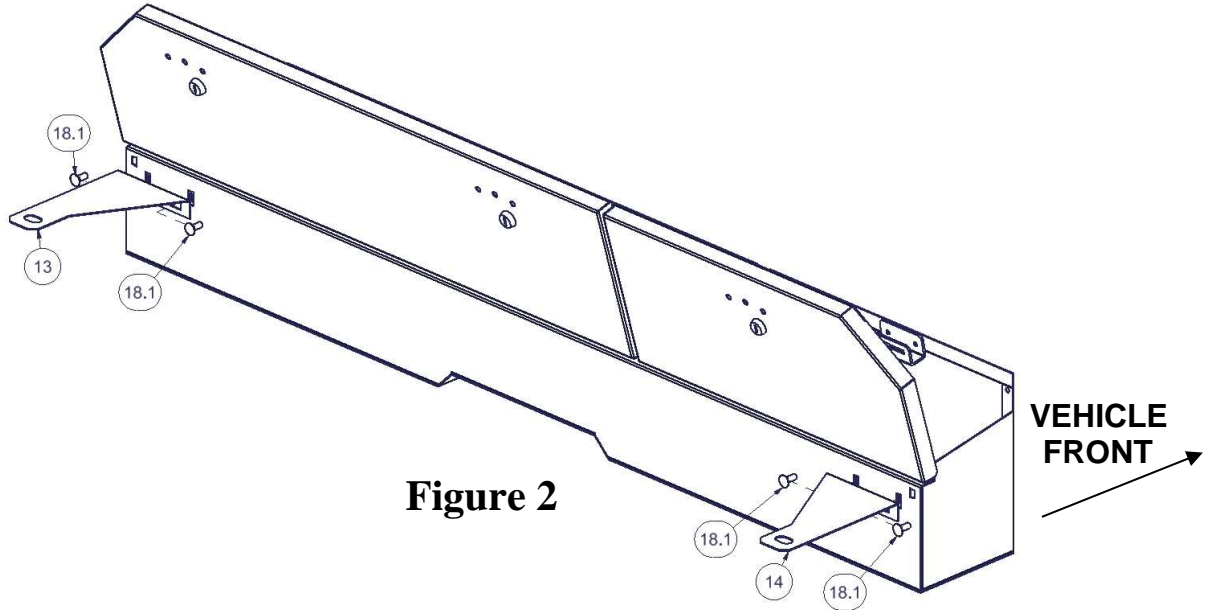

Figure 2
8. Insert the #18.1 Carriage bolts through the #13 and #14 Mounting Brackets so they protrude to the inside of the box. The Carriage bolts may need to be moved in the horizontal slots of the #13 and 14 Brackets to line up properly with the vertical slots in the rear of the Lockbox. See **Figure 2**.